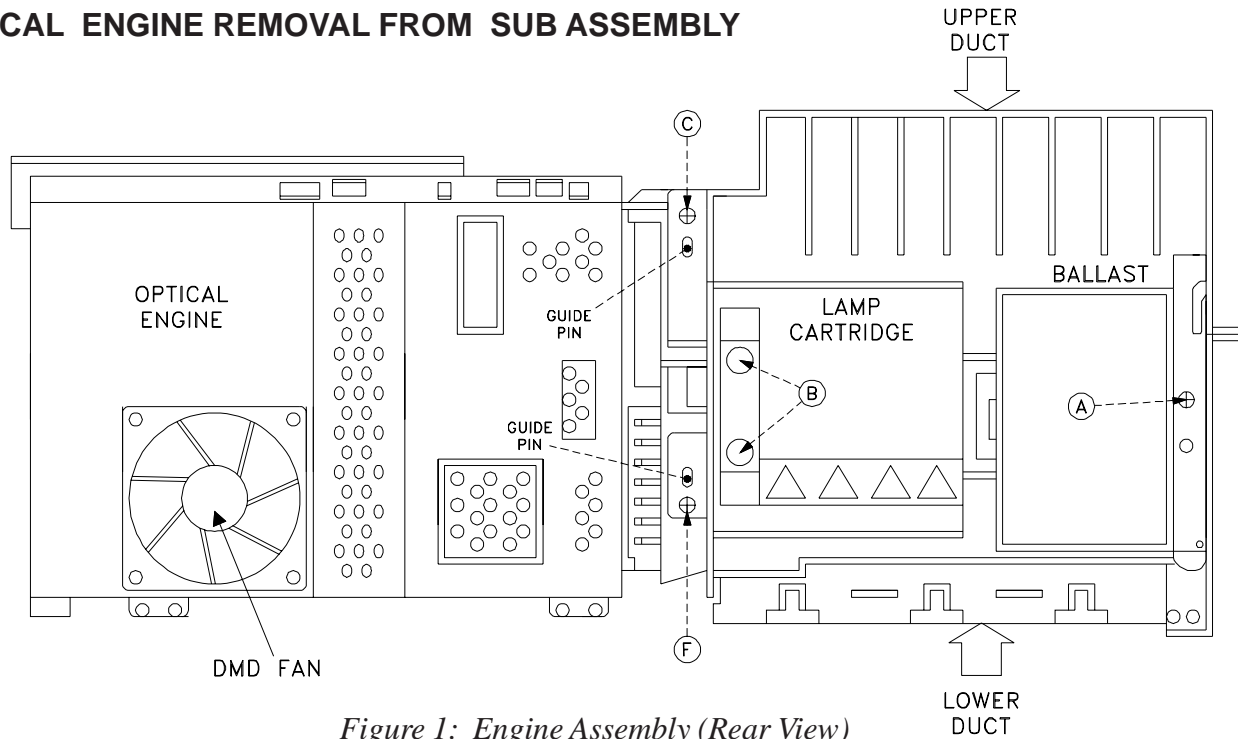

Figure 1: Engine Assembly (Rear View)
- 1) Loosen 2 screws (B) and remove the Lamp Cartridge (Figure 1).
- 2) Remove screw (A) to remove the Ballast (refer to page 16).
- 4) Remove 2 screws (C) in the upper duct, one in the front and one in the rear, (Figures 1 & 2).
- 9) Remove the 2 bottom duct screws (F). (Figures 1 & 2)